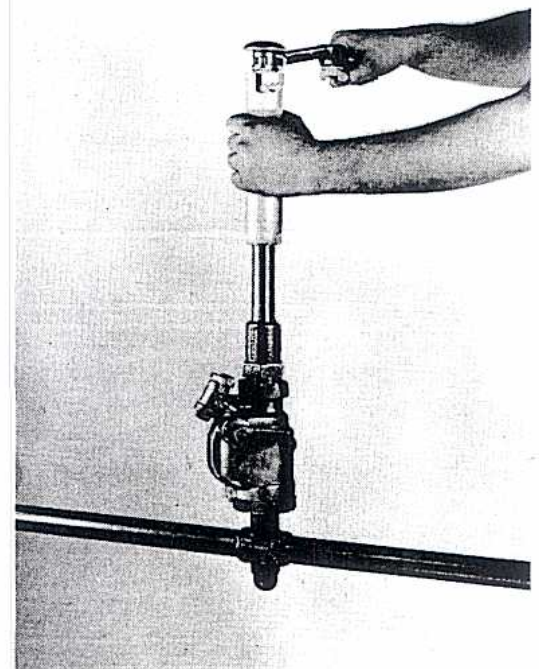

FIGURE 34
4. Drill the hole by operating the ratchet handle **clockwise** and turning the feed sleeve **clockwise** a little at a time. FIGURE 34. Use a light even feed at all times.